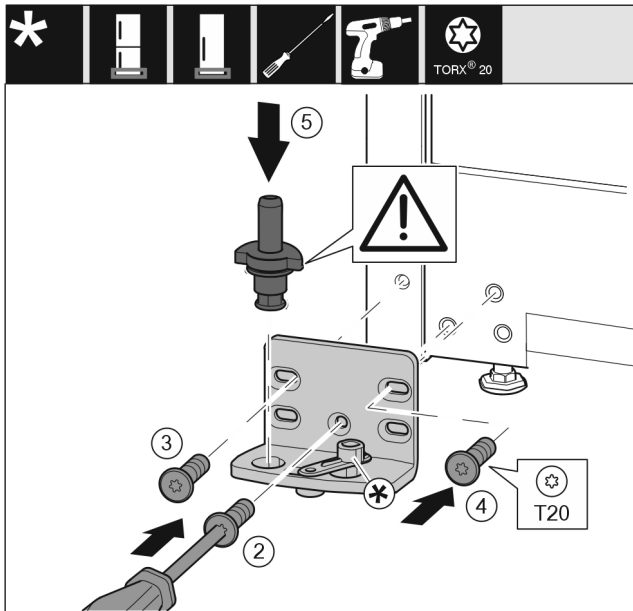

Fig. 17
- ▶ Place the bearing bracket on the other side and screw it in using the T20 screwdriver. Start with screw 2 at the bottom in the middle. Fig. 17 (2)
- ▶ Screw in screws 3 and 4. Fig. 17 (3,4)
- ▶ Insert the bearing pin completely. Make sure that the latching lug is pointing to the rear. Fig. 17 (5)